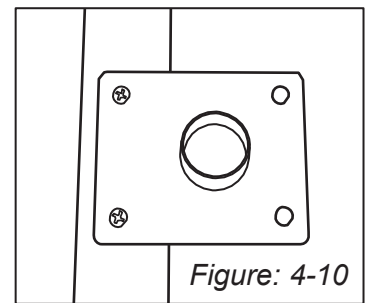

Figure: 4-10
A. MOUNT FLANGE: Mount flange to desired location on wall stud or floor using appropriate size screws to provide a firm mount. Figure: 4-10 Do not attach the fitting to the flange at this point. This will be done after the fitting to pipe connection has been completed. Insert pipe through the back of the flange after preparing pipe in accordance with steps 1 thru 3, **making sure to strip jacket to expose FIVE corrugations.**